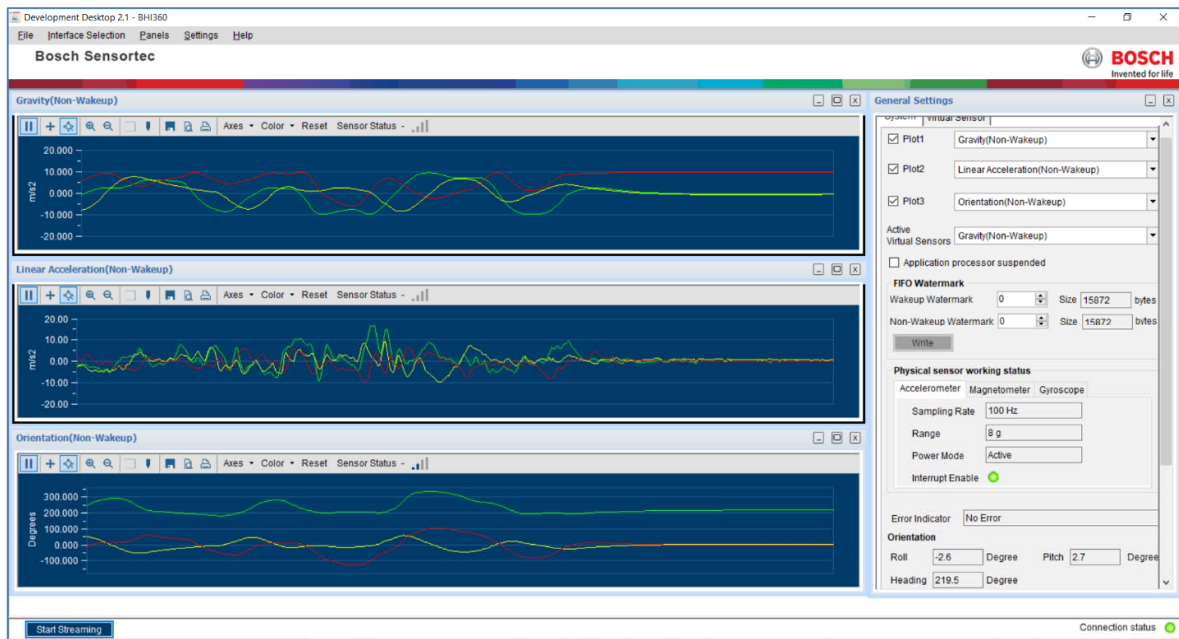

Figure 7 BHI360 virtual sensors' waveforms
- Now click “Start Streaming” button on the bottom left to see the waveforms in real-time by rotating the APP3.0 base board with BHI360 shuttle board plugged in. When moving on a flat surface back and forth, linear acceleration is changing in Plot2, while gravity vector in Plot1 remains the same as shown in Figure 7.